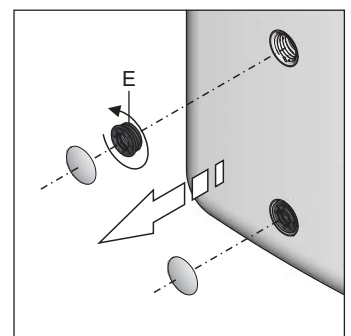

Fig. 5-2 Unscrew threaded piece
- When using the KFE filling connection (accessory KFE BA):** Remove the cover plate from the handle and unscrew the threaded piece (fig. 5-2, item E) from the storage tank container.